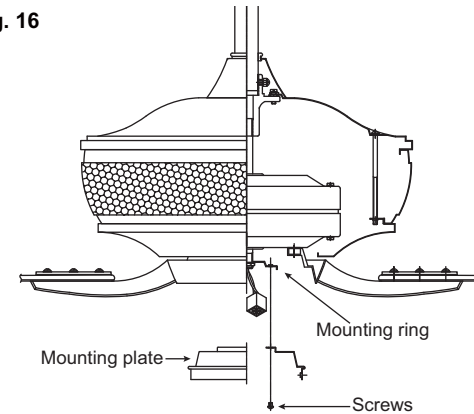

Fig. 17
Step 1. Loosen the two screws on the mounting ring attached to the motor shaft and "remove" and save the third screw. (Fig. 17)